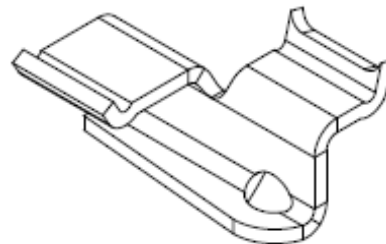

FIGURE 5 – TIGERCLAW TC-G FASTENER
**5.5** Grooved deck boards may be fastened using TigerClaw TC-G hidden fasteners. Two fasteners are required at each support. The outer edge of the first and last deck boards shall be fastened to each joist with one 2.5-inch-long FastenMaster Trim Top™ Stainless Steel Coated Trim Screw. See Figure 5.